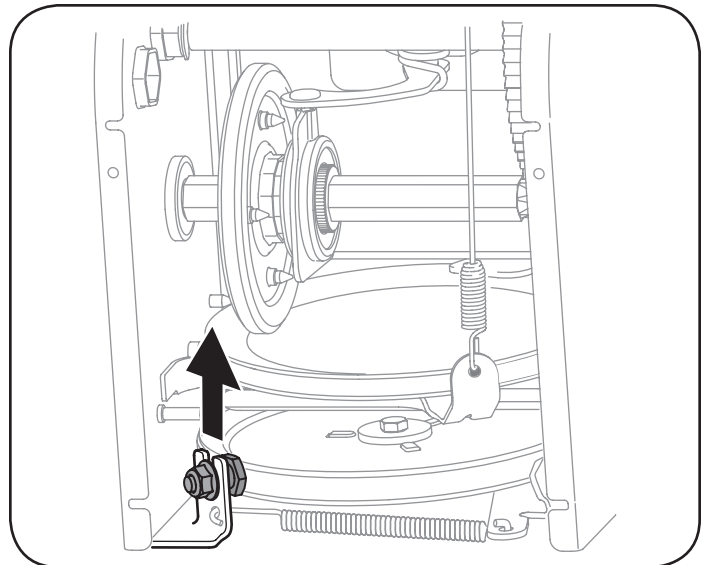

Figure 31
7. Loosen and remove the shoulder screw which acts as a belt keeper. Refer to Figure 31.